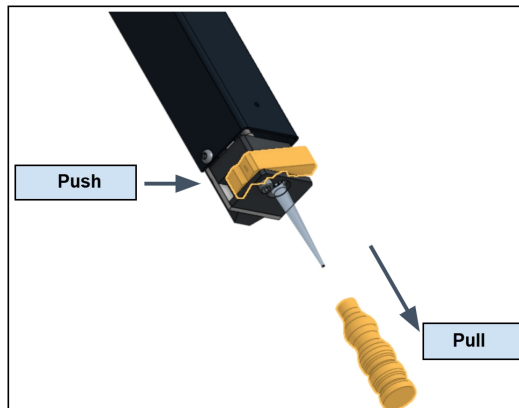
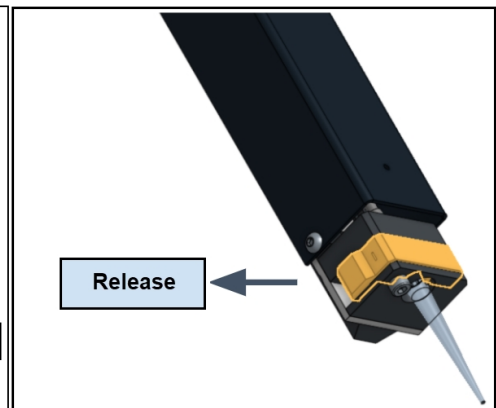

Figure 3.4
Figure 3.5
- Release the lever and remove the white plastic holder (Figure 3.4 and Figure 3.5).